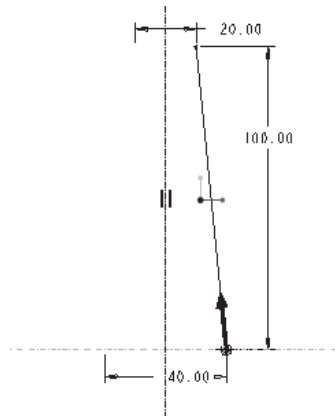

Figure 8-83 Sketch of the trajectory with dimensions
- Select the sketching plane, draw the trajectory using the sketcher tools, and apply dimensions, see Figure 8-83.
5. Once you enter the sketcher environment, draw the sketch of the trajectory and dimension it as shown in Figure 8-83. As evident from Figure 8-83, the endpoint of the trajectory is aligned to the **TOP** datum plane.